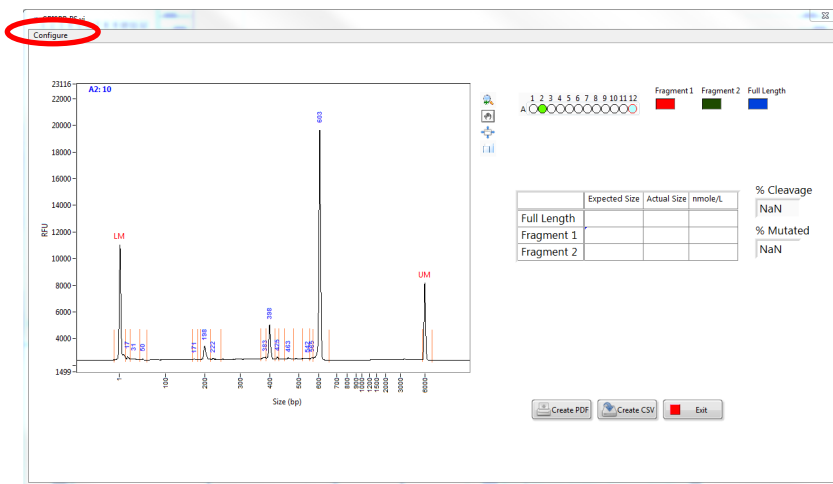

Figure C2. Select **Configure** to enter expected PCR fragment and cleaved DNA fragment sizes.
- 3 To configure fragment sizes for the plugin, or load previously configured and saved values, select **Configure** in the upper left hand corner of the display (Figure C2).